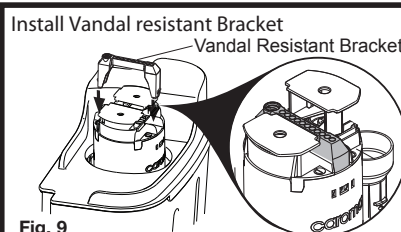

Fig. 9
- 7- Clip the Vandal Resistant Bracket into the top of the outlet valve as shown in Fig. 9. Make sure the large threaded hole is towards the back of the cistern.